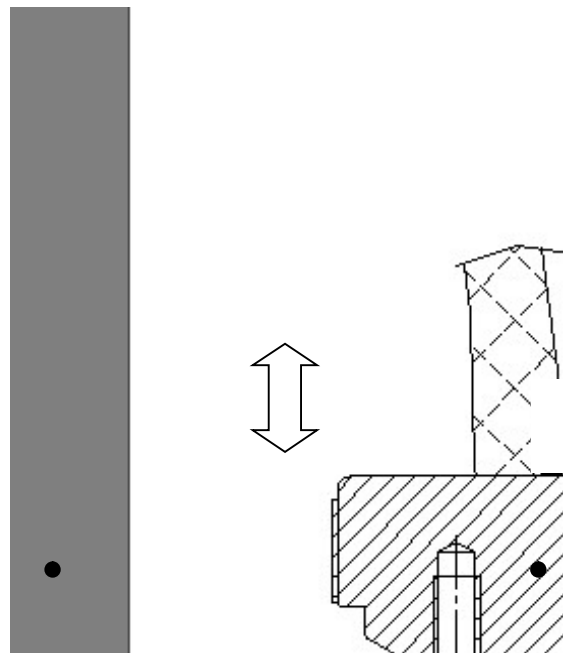
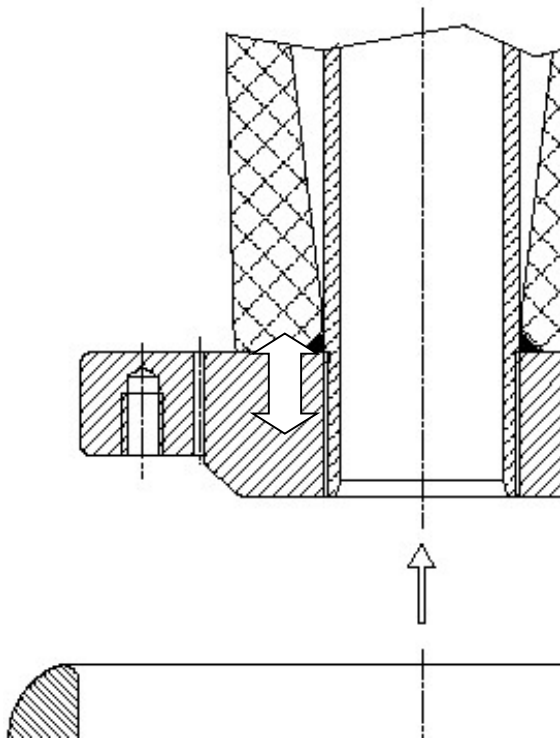

Fig. 17 – Bottom plate, 138-161 kV
Fig. 18 - Bottom plate, 138-230 kV
- Make the connection from the transformer winding to the bottom plate of the bushing, aligning the holes and screwing the foreseen screws. According to IEEE Standard, there are three types of bottom plates, depending of the rated voltage and of the rated current of the bushing (fig. 17, 18, 19). The tighten torque is indicated below the figures.
- If the oil side dielectric shield, when supplied, fixed on the bottom plate (in different ways depending of the bottom plate, see fig. 17, 18, 19, 20), is of obstacle in the bottom connection from the bushing and the lead (surely in the case of the plate for 138-230 kV bushings, fig. 18), remove the shield and make the connection.
If the oil side dielectric shield, fixed on the bottom plate (in different ways depending of the bottom plate, see fig. 17, 18, 19, 20), is of obstacle in the bottom connection from the bushing and the lead (surely in the case of the plate for 138-230 kV bushings, fig. 18), remove the shield and realize the connection coming from the winding. In this case the standard shield can not be installed.
For rated current greater than 1200 A the bushing is already foreseen for bottom connection, without the need to change any lug; the conductor is rigid and not removable. A fixed conductor carries out the current, from the bottom plate, oil side, up to the HV terminal, air side. The connections are foreseen according to IEEE Standard dimensions (see fig. 17, 18, 19).